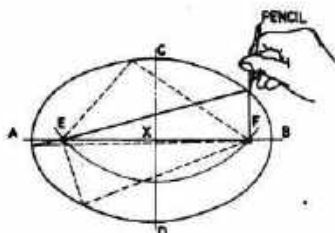

Fig.238 ELLIPSE
1. Draw a rectangle with the sides representing the width and length of the desired ellipse (oval). See Fig.238